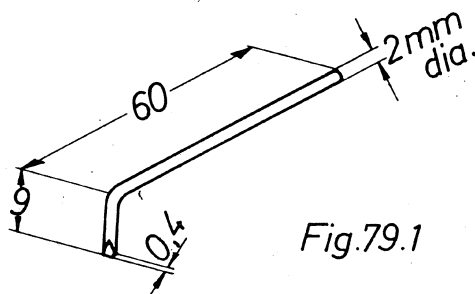
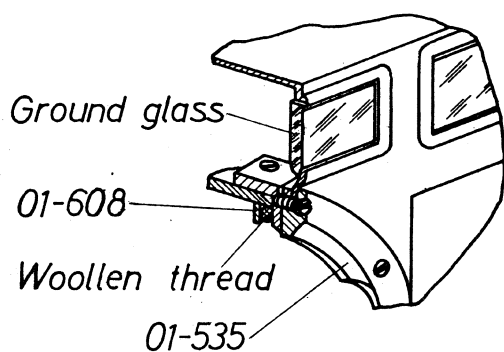
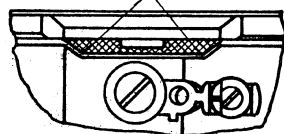

Fig. 79.1
Fig. 80.1
Fig. 81.1
1. Metal hook (see Fig. 79.1)
This fault is cured by cementing a soft black woollen thread, about 1.5 to 2 mm thick and 24 mm long, into the light channel. Coat the surface of the thread with Teroson fluid, then push it into the channel between the bayonet ring 01-535 and the spring washer 01-608 (see fig. 80.1) with a bent metal hook (see fig. 79.1). Be sure to stick both ends of the thread well into the corners of the channel (see fig. 81.1).